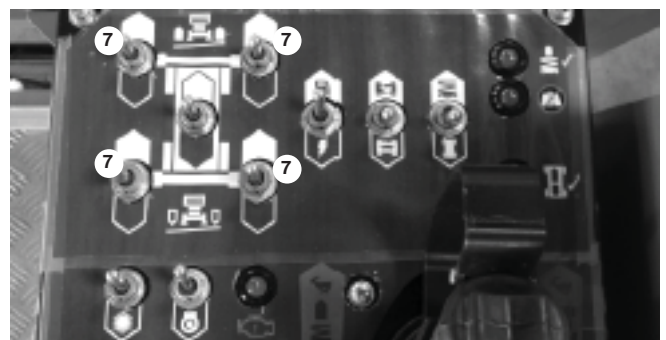

Figure 8.15
Completely lower the platform. Then push and hold the stabiliser switches (7) forward until all the stabilisers are completely up (see figure 8.15).